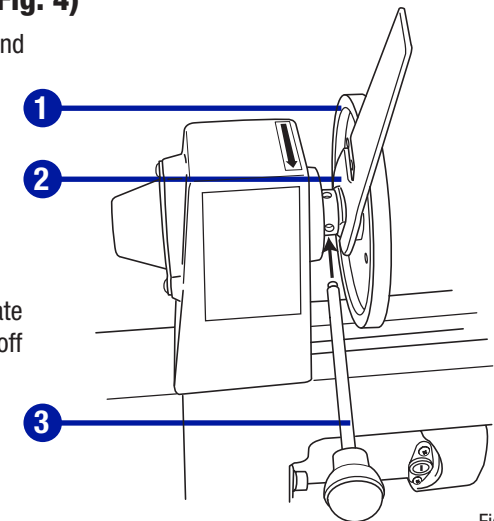

Fig. 4
**INSTALLING OR REMOVING A FACEPLATE (Fig. 4)**
- When installing the faceplate (1), thread it onto the end of the headstock spindle and hand tighten.
- Place the wrench (2) over the flats on the faceplate.
- Insert the tip of the push-out rod (3) into one of the slots in the side of the headstock spindle.